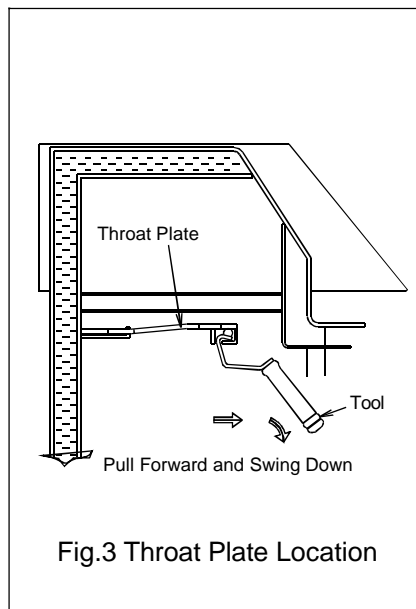

Fig.3 Throat Plate Location
The throat plate is lowered using the door opening tool. Slide the tool into the bracket from the side, pull the throat plate forward, and then lower it as shown in Fig. 3. Any sooty deposits should then be swept from the plate and into the fire.
After clearing any soot from within the stove, replace the throat plate (see Fig. 3), the front firebars, and side fireplates.
b) the throat plate is fitted correctly (see Fig. 3.) and that it is not distorted.